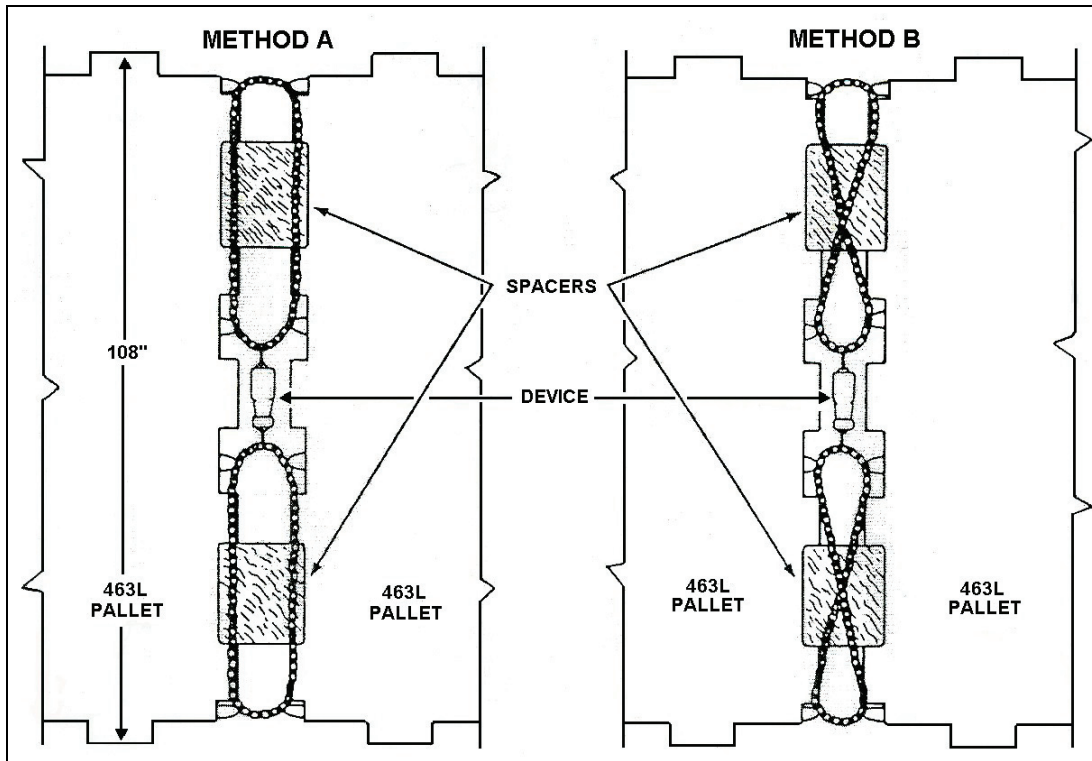

Figure 3-17. Chain Pallets Attached Using Tie-down Devices
- d. Chain pallets together using tie-down devices (see Figure 3-17).